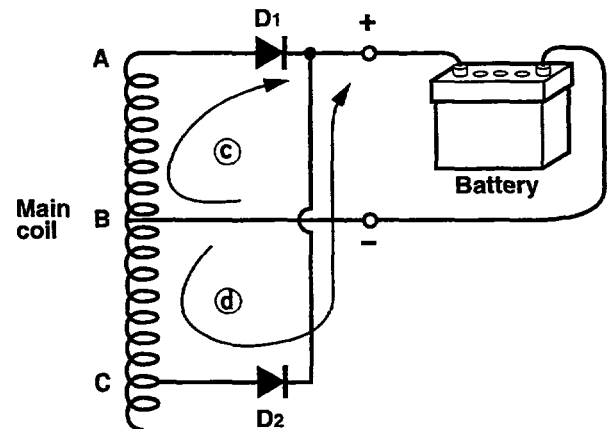

Fig. 5-8-2
Fig. 5-8-2 shows the DC output circuit of the generator. DC voltage is generated in the DC coil. When the voltage in **A** is higher than that in **C**, the current ③ flows in the direction shown in the figure, while no current flows between **B** and **C** because the current is cut off by the diodes **D1**.